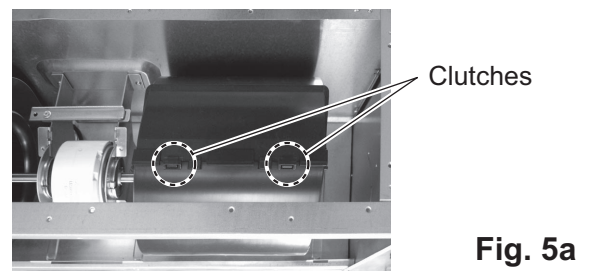

Fig. 5a
5. Disconnect two (2) clutches (Fig. 5a) fixing the lower side of the fan casing and pull out the protrusion part (Fig. 5c) placed onto the side of the main unit (Fig. 5b). Then remove the fan casing.